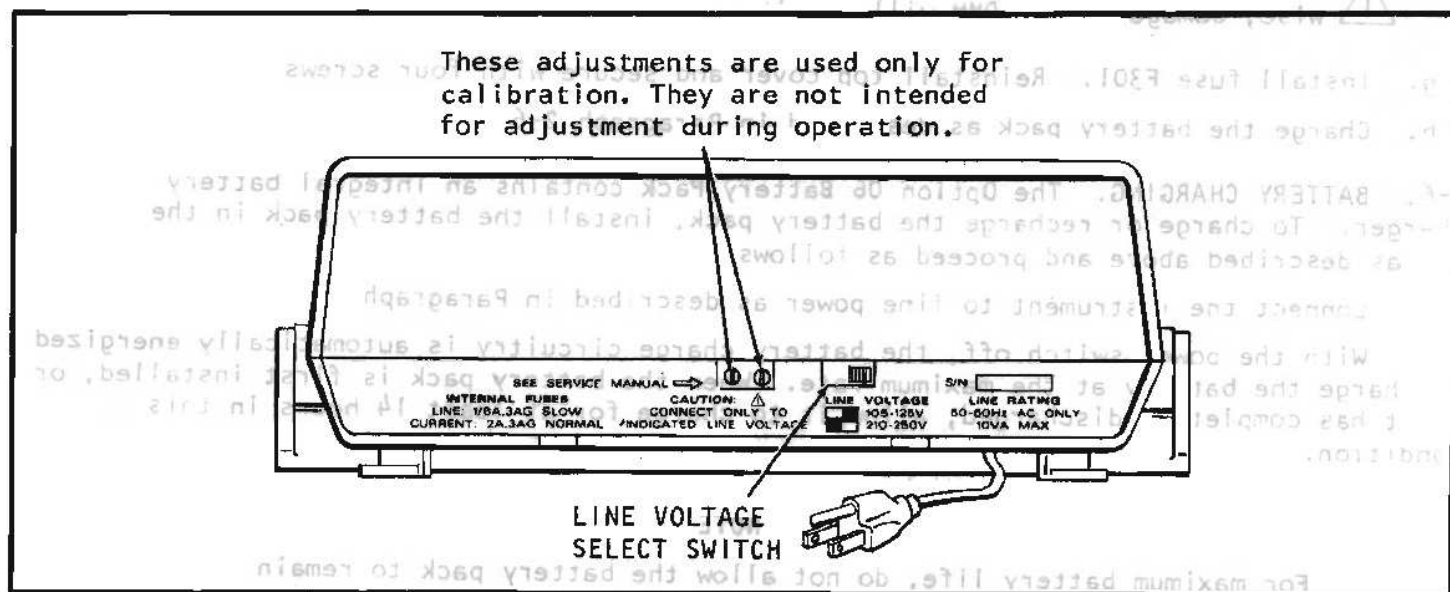

FIGURE 2-1. Rear View Showing Line Switch.
a. Set the **LINE VOLTAGE** switch on the back of the instrument to correspond to the line voltage available. Ranges are 105 to 125 volts and 210 to 250 volts ac as shown in Figure 2-1.